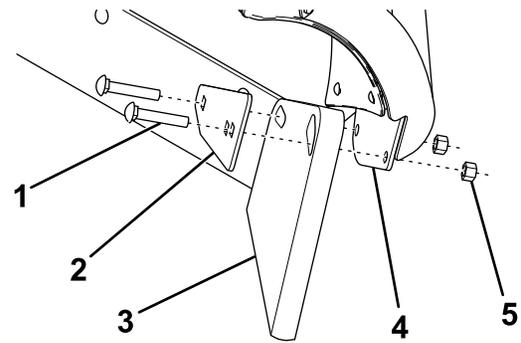

Figure 12
18. Loosely attach the plow wing cutting edge to the plow wing using 2 carriage bolts (5/8 inch), a mounting plate, and 2 nuts (Figure 12).